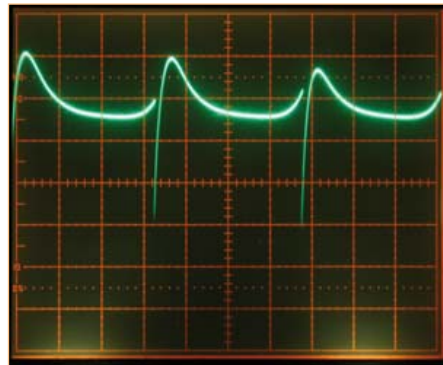
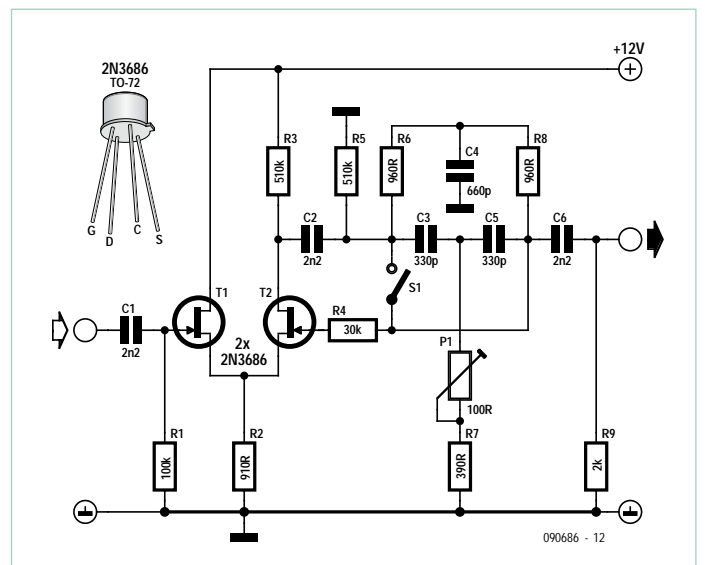

Figure 1. Oscilloscope trace showing regular interruptions in the fan current, from which the tachometer signal is derived.
Figure 2. This filter with an RC network in the positive feedback path offers a true notch (frequency reject) response.
The circuit does not look at the absolute level of current draw of the fan: rather, it analyses the regular variations in current which are synchronised with the rotation of the fan. The oscilloscope trace in Figure 1 shows the characteristic regular interruptions to the current flow from which our cir-
Figure 1. A peaking LC filter designed for an IF of 500 kHz. Tweak R4 to adjust the effectiveness. S1 is the 'defeat' switch and C4 acts as a fine tuning control.
The notch filters described here are of the LC and RC type, and intended for application in the intermediate frequency (IF) section of a radio receiver. Their principle of operation is identical, though the circuit in **Figure 1** is a sharp filter tuned to the signal, and the one shown in **Figure 2**, a notch suppressing selected noise components. Both have an on/off control and a ‘depth’ (or ‘peak’) control included. They are designed for operation at 502.7 kHz (basically 500 kHz IF + 2.7 kHz sideband) in terms of the frequency-determining components.
The filters consist of a source follower T1 at the input and an amplifier stage T2 with a degree of positive feedback. The operating frequency of the filters is defined by the LC (Figure 1) or RC parts (Figure 2) in the positive feedback path.
The amount of positive feedback and with it the effectiveness of the filters is adjusted by selection (or fine tuning) of resistor R4 in the LC circuit (Figure 1), or adjustment of P1 in the RC circuit (Figure 2). The operating frequency (rejection frequency) of the LC filter can be fine tuned by trimmer C4. Alternatively, a varicap (variable capacitance diode) with a 25 pF range may be used in this position. Switch S1 is the On/Defeat control for both filters.